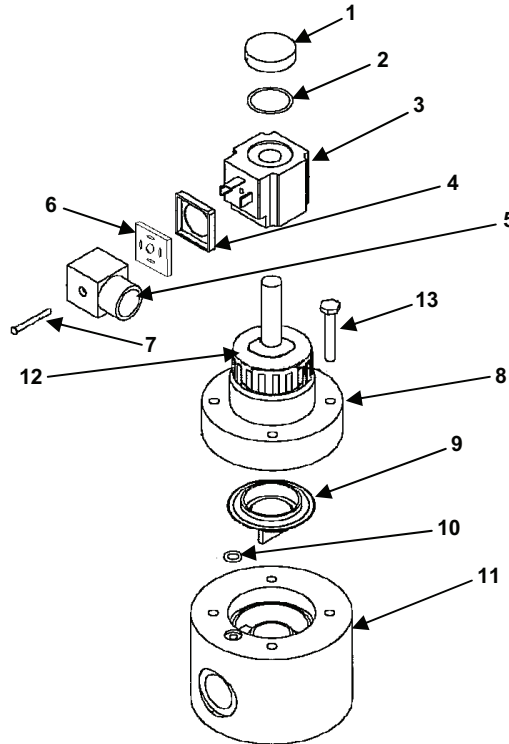

Figure 2. Solenoid Valve Assembly.
- Remove cap nut (Figure 2, item 1), O-ring (Figure 2, item 2) and screw (Figure 2, item 7).
- Remove the electrical connector (Figure 2, item 5) and gasket (Figure 2, item 4), lighted wafer (Figure 2, item 6).
- Remove coil (Figure 2, item 3) and four screws (Figure 2, item 12).
- Remove valve top (Figure 2, item 8), diaphragm (Figure 2, item 9) and O-ring (Figure 2, item 10) from socket body (Figure 2, item 11). It is not necessary to remove union nut (Figure 2, item 12).
- Inspect the O-rings (Figure 2, item 2 and 10) and gasket (Figure 2, item 4) for damage or deformity.
- Inspect diaphragm (Figure 2, item 9) and lighted wafer (Figure 2, item 6) for damage or clogged pores.